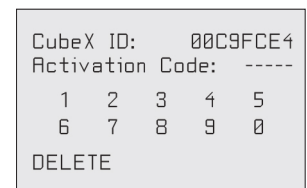

Fig. 12
12. Press the Control button, the CubeX Activation Screen will appear. You will need to register and activate your CubeX to unlock the printer. (Fig. 12)